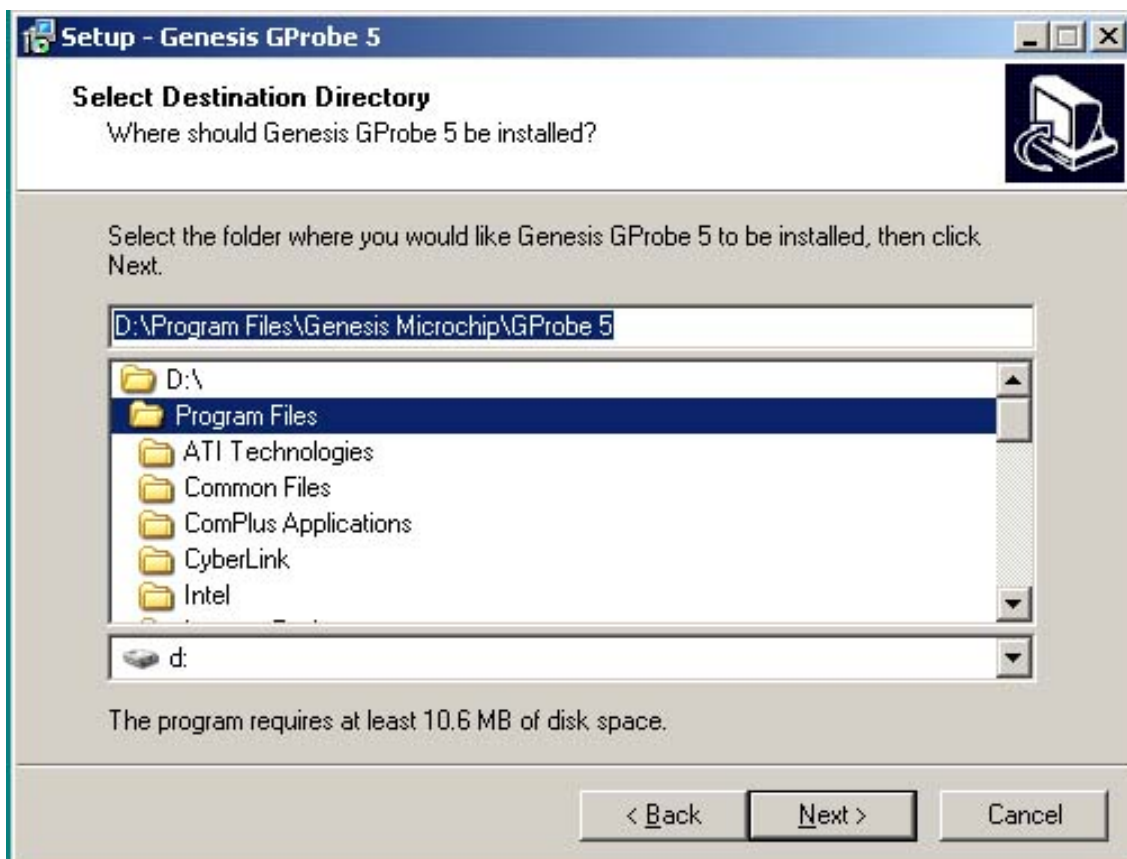

Fig. 0.4
0.4 Keep on press “ Next “ , see Fig. 0.4